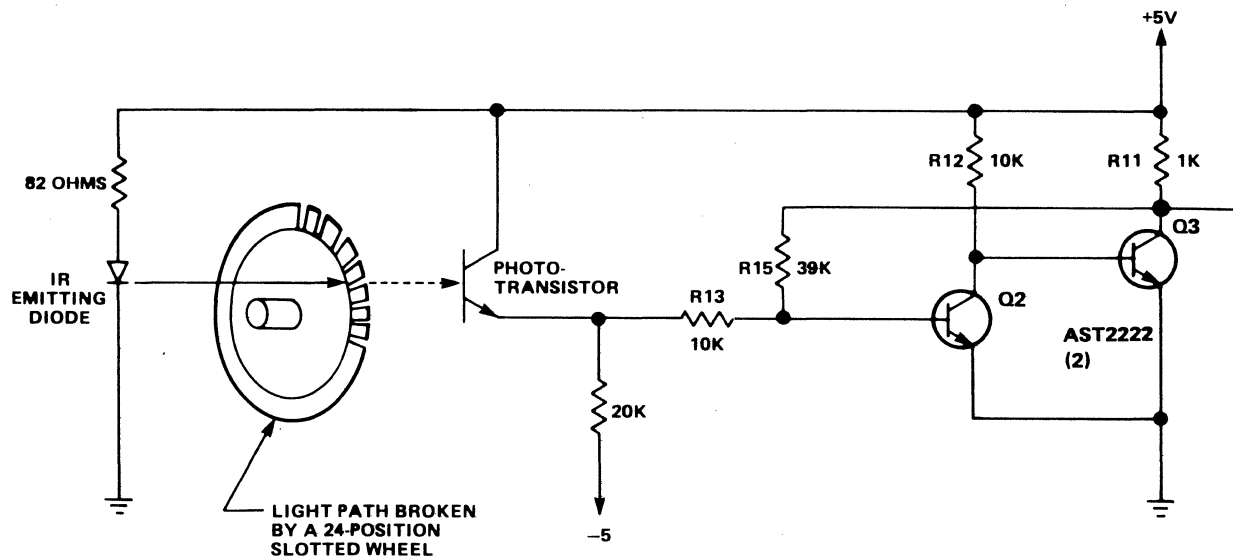

Figure 4-15. Feedback Sensor Circuitry
4.5.9.4 Feedback Sensor Circuit. Primary operation of the feedback sensor is accomplished by a 24-position slotted wheel which interrupts a light path between an IR emitting diode and a photosensitive transistor as shown in figure 4-15. This assembly is mounted on the stepping motor which drives the printhead carriage. The current from the phototransistor is translated into a TTL logic level signal by the Q2 and Q3 circuit.